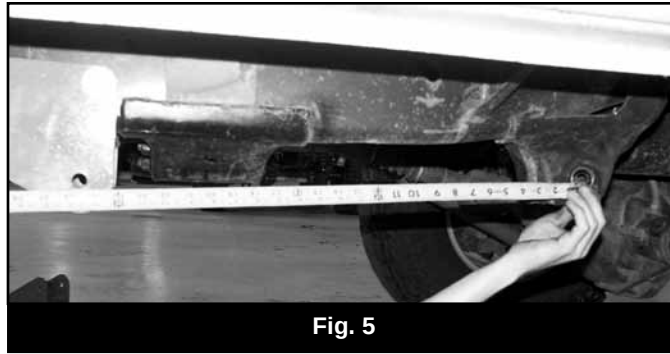

Fig. 5
20. Place the provided lower arm mounting bracket (01217) on the frame just behind the transmission crossmember (Fig 4). Be sure that the mount is flush with the bottom of the frame rail. Measure back 25-5/8" from the center of the outside hole in the original mount to the center of the hole in the new mount (Fig 5). Using the bracket as a template, mark the mounting holes to be drilled on the frame. Note: Bracket positioning is critical for proper vehicle alignment. Be sure to double check that the measurement is a 25-5/8".